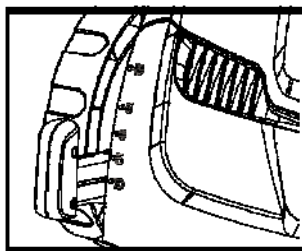

Fig. 8b
2). Adjust the lever (10) to one out of the five stages. Read the adjusted depth from the scale. (See Fig 8b and the table below).